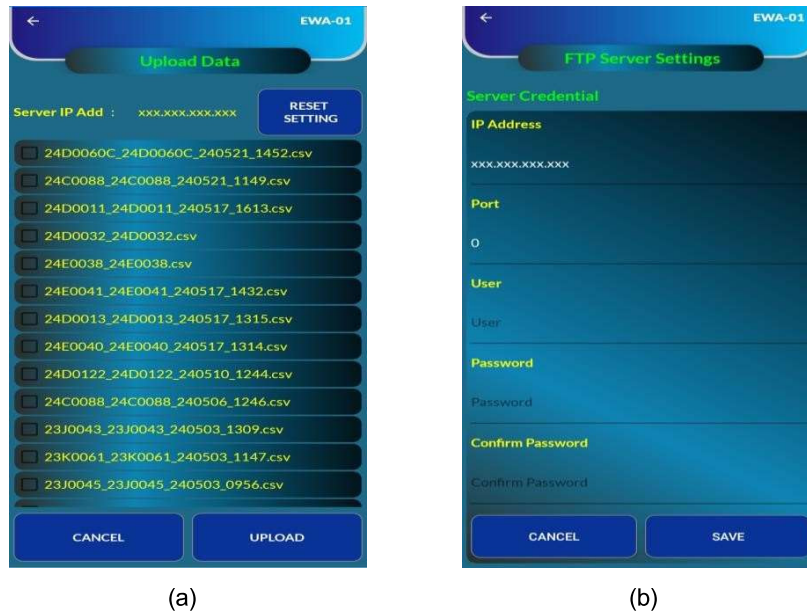

Figure 6-17 Upload data
- Select the file for upload (from screen in figure 6-17 (a)) and click on the “Upload” button to push the file to FTP server. Internet connectivity in the android phone is must to perform this activity.